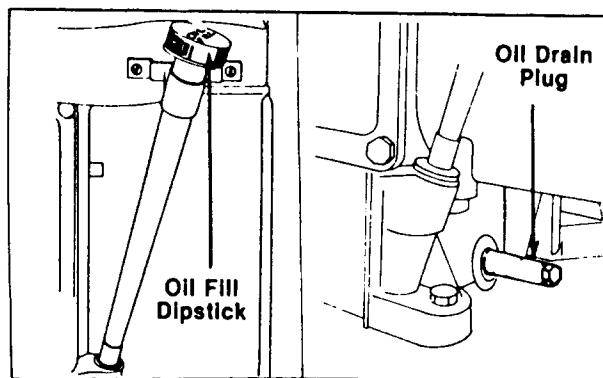

FIGURE 15
After the first five hours of operating a new engine, drain the oil (See fig. 15) from the crankcase while engine is still hot and refill crankcase with new oil; thereafter change the oil every 25 hours of operation. This procedure ensures minimum wear of engine parts and provides virtually trouble-free operation. To change the oil, proceed as follows:
Step 1. With the machine on level ground place a suitable metal container under the oil drain plug, then remove the drain plug. See fig. 15.